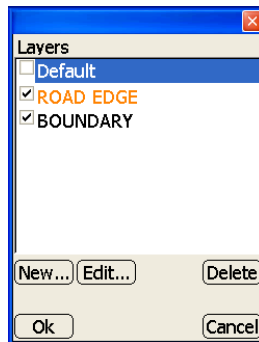

Figure 3-74. Layers
- Layers – the **Layers** dialog box creates, edits, or deletes the layers for the selected linework file, press **Ok** to save the information (Figure 3-74 on page 3-49). To enable the layers, check the box next to the layer to display it on the main screen.
- **Edit**: on the **Layers** dialog box press **Edit** to edit the selected layer (Figure 3-74).
- **Delete**: on the **Layers** dialog box, press **Delete** to delete the selected layer (Figure 3-74).